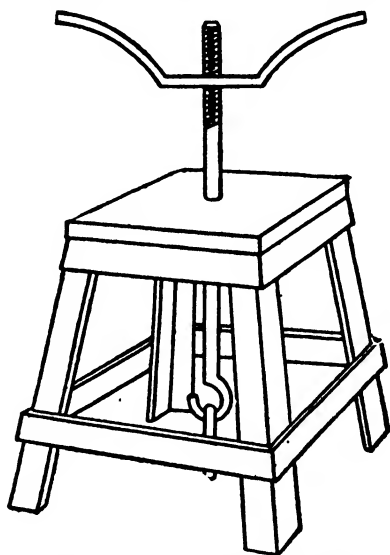

FIG. 67. Bench-wheel rack.
1. Unscrew the nuts and drive out the bolts as far as they can be conveniently driven with a hammer and remove with a large pair of end pinchers. Place the wheel on a bench-wheel rack, (Fig. 67) the point of the hub up; and clamp securely. With a file or cold chisel make a shallow mark near one of the joints of the rim.